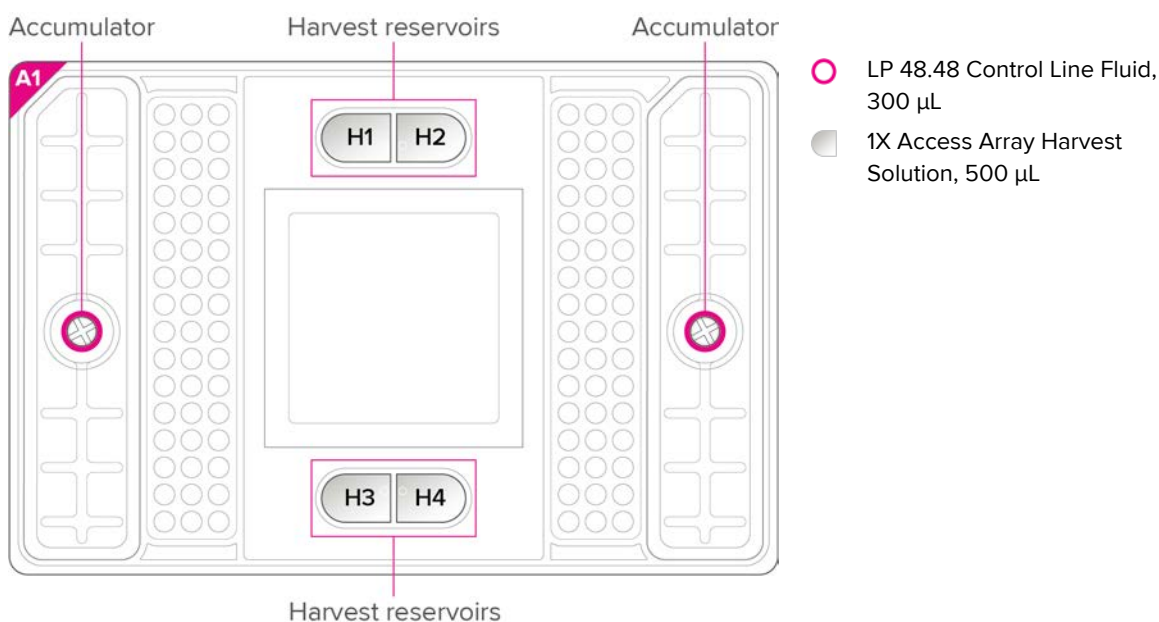
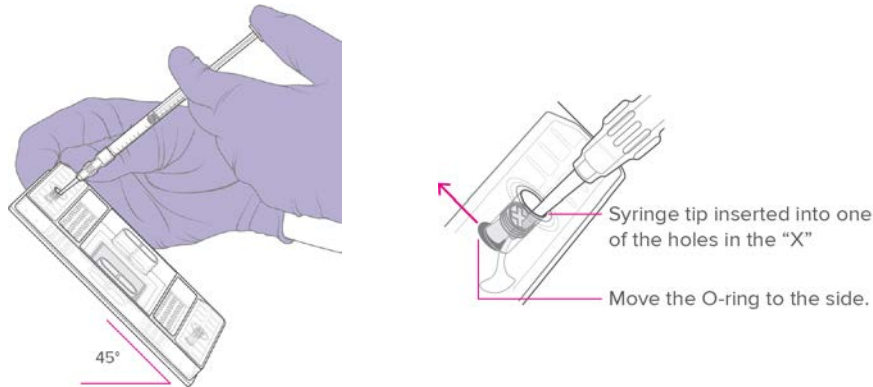

Figure 1. Priming map for the LP 48.48 IFC
Figure 2. Injecting Control Line Fluid
- 2 Inject LP 48.48 Control Line Fluid into each accumulator on the IFC (see Figure 1). Use the entire contents of one syringe in each accumulator. Holding the IFC at a 45-degree angle, insert the syringe tip into one side of the check valve, use the tip to gently press down to move the black O-ring to the side, and then release the fluid (see Figure 2).
- 3 Place the IFC on a flat surface and pipet 500  $\mu\text{L}$  of 1X Access Array Harvest Solution into each of the harvest reservoirs H1, H2, and H3, and H4 (see Figure 1).
- Before pipetting reagents, maintain traceability by noting the orientation of the A1 corner, assay inlets, and sample inlets, as shown in Figure 1.